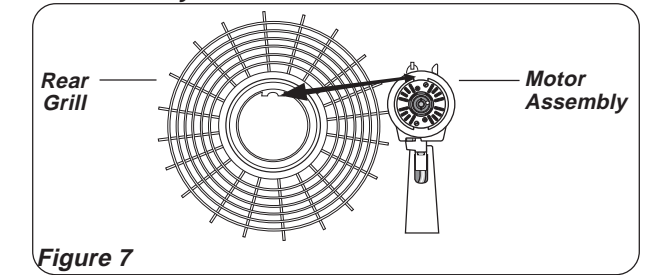

Figure 7
1. Tilt **Head Assembly** back. Put **Rear Grill** on Motor assembly. (Figure 7)